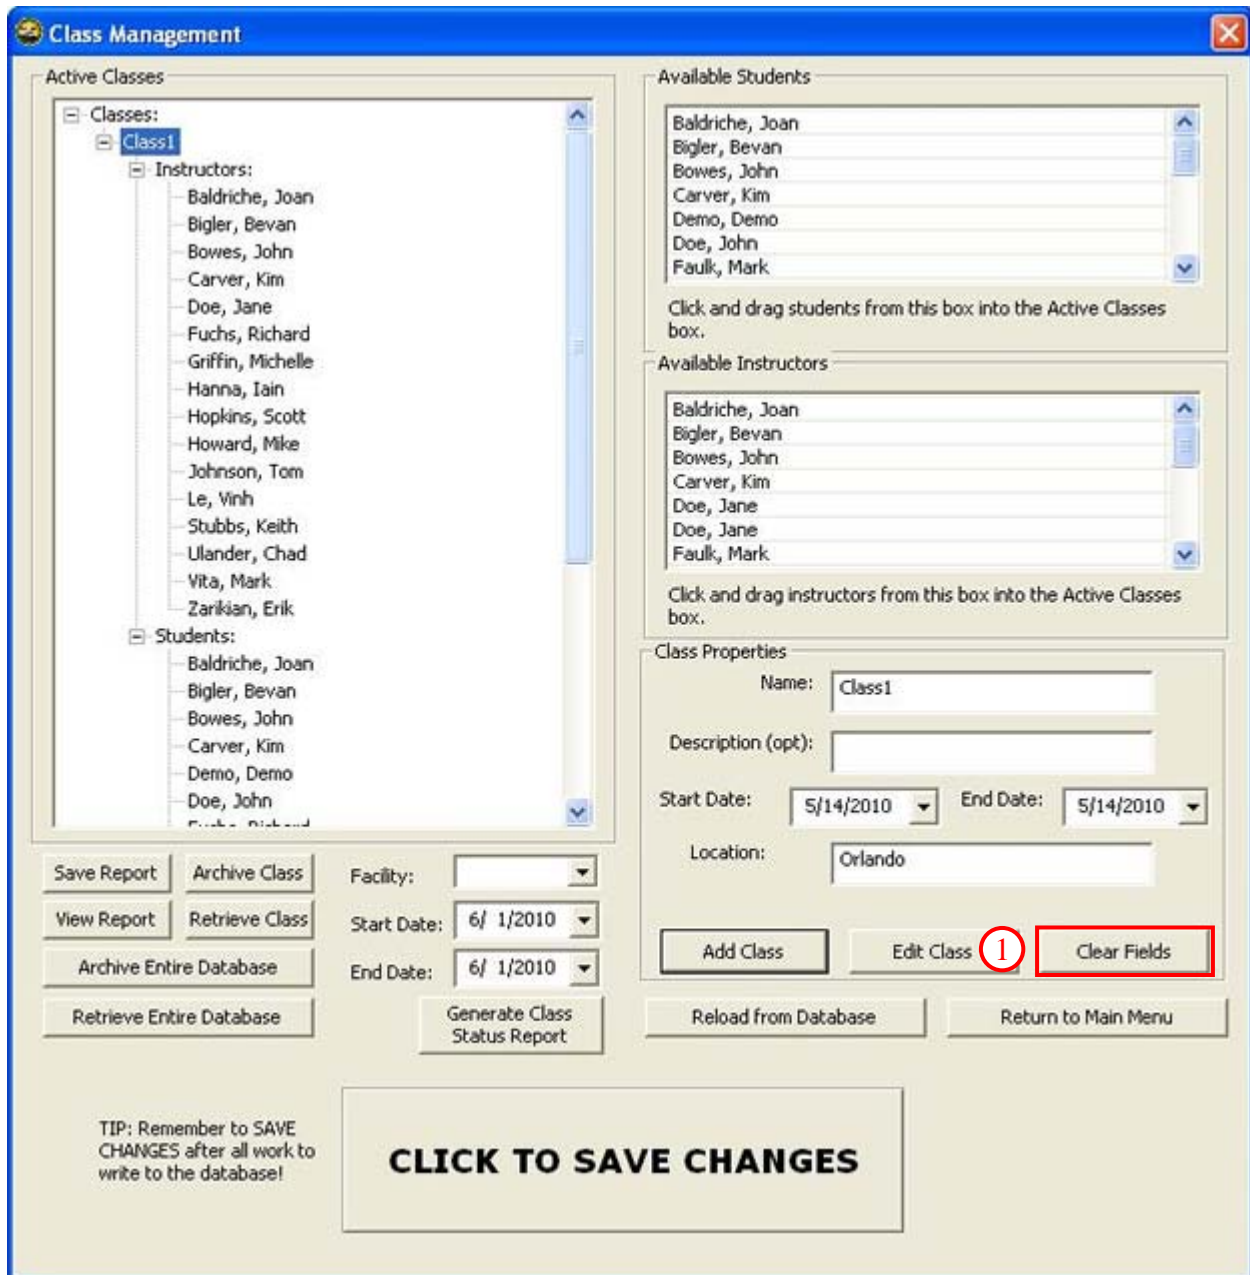

Figure 99. Class Management - Clear Fields
1. Click the [CLEAR FIELDS] button (Figure 99).